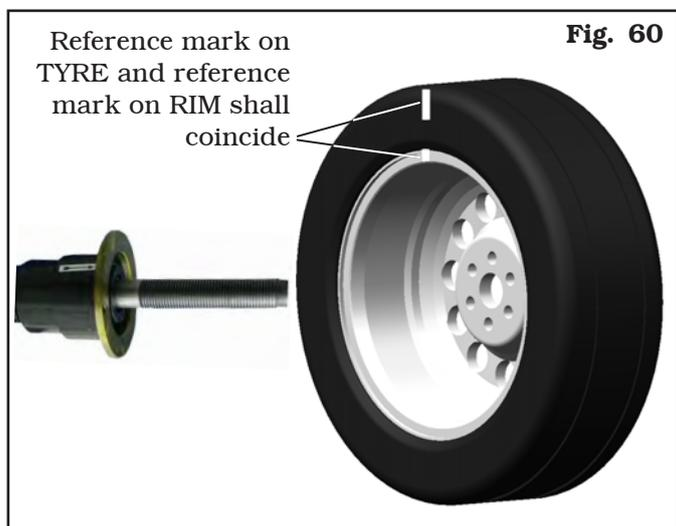

Fig. 60
STEP 4. Remove the wheel from the wheel balancer. Dismount and remount the tyre on the rim so as to bring the two reference marks (rim and tyre) to coincide. Refit the wheel on the balancer (see **Fig. 60**) with the two reference marks next to the arrow on the flange.